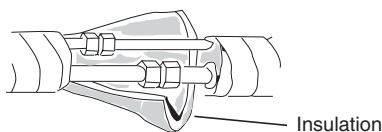

Fig. 3-62
- (3) Carefully bend the tubing (if necessary) to run along the wall in the direction of the outdoor unit and then tape as far as the fittings. The drain hose should come straight down the wall to a point where water runoff won't stain the wall.
- (4) Connect the refrigerant tubing to the outdoor unit. (After performing a leak test on the connecting part, insulate it with the tubing insulation. (Fig. 3-62)
(5) Assemble the refrigerant tubing, drain hose, and inter-unit wiring as shown in Fig. 3-62.